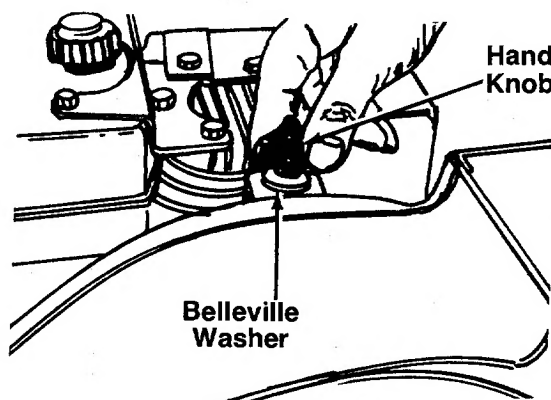

FIGURE 12.
3. Remove the hand knob and belleville washer which holds the housing to engine brace. See figure 12.